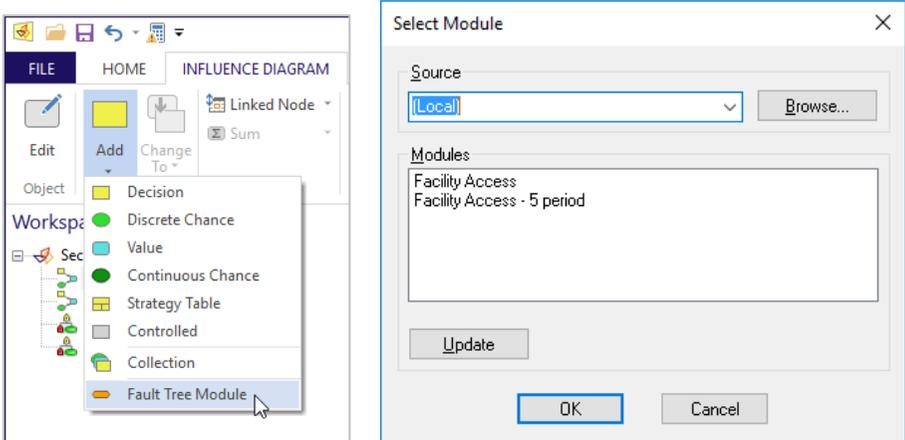

Figure 9-3. Influence Diagram | Node | Add | Fault Tree Module Command and the Select Module Dialog
- ⇒ Click Influence Diagram | Node | Add | Fault Tree Module. DPL displays the Select Module dialog (Figure 9-3).